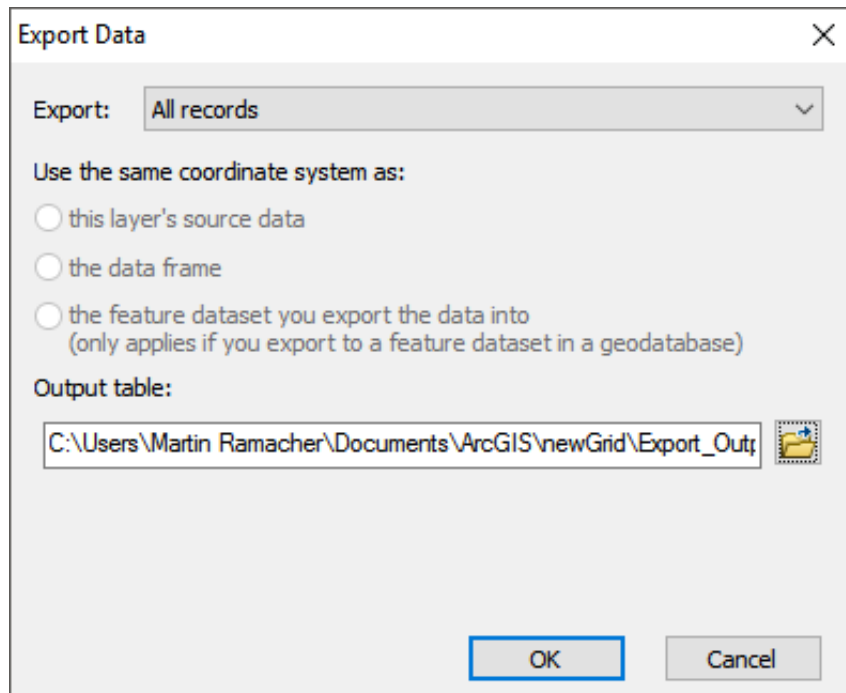

Figure 8: Screenshot of the Esri® ArcMap™ pop-up window “Export Data”.
- A window ‘Table’ will open. In the table options  ‘Export...’ has to be chosen. Figure 8 shows a screenshot of the ‘Export Data’ pop-up window.